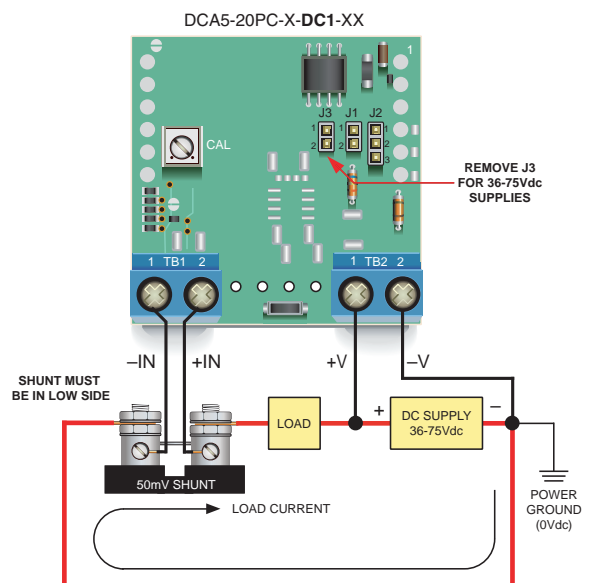

Figure 3. Low-Side Shunt Connections for "-DC1" Models Modified for 36-75Vdc Non-Isolated Power (See Technical Note 5)
5. Operation With 36 to 75Vdc Power: As shipped, all '-DC1' models' rated operating supply range is +5 to +40Vdc. However, '-DC1' models can be user configured for 36 to 75Vdc operation by removing (opening) jumper J3. Please note that this user modification can only be performed on '-DC1' power models. Also, all '-DC1' models – including those that have been modified for 36-75Vdc operation – can only be connected in low-side, grounded-shunt applications. See Figure 3 for detailed wiring information.